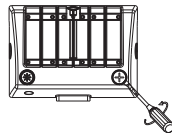

figure 5.1
- Step 1: Open the metal plug and plastic plug counterclockwise with a screwdriver, (figure 5.1)